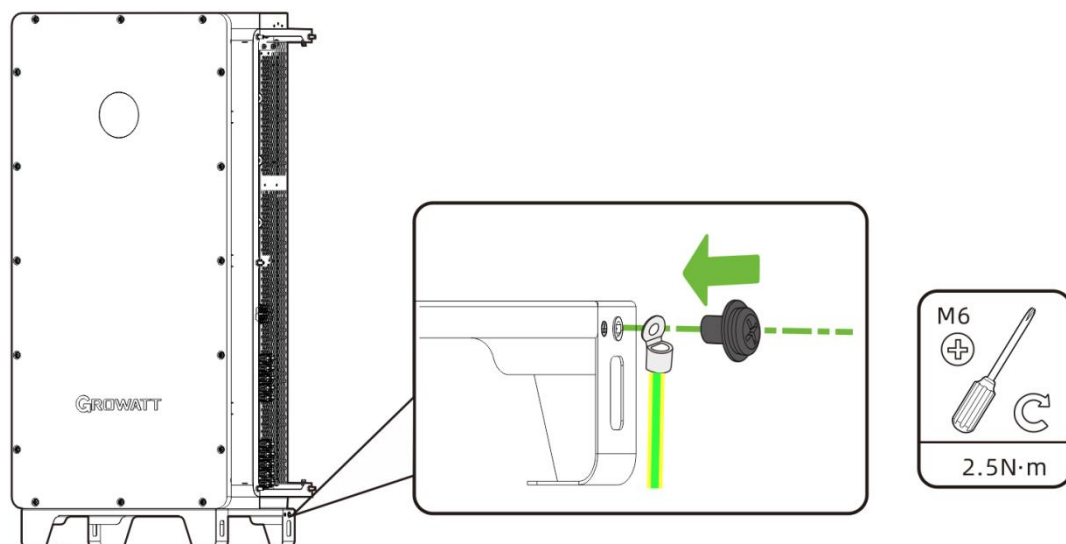

Fig 6.6 Protective earthing position
Step1: Verify the WIT Protective Grounding Location, The position of the ground points of the WIT 50-125K-XHU Hybrid Inverter is shown in Fig 6.6.